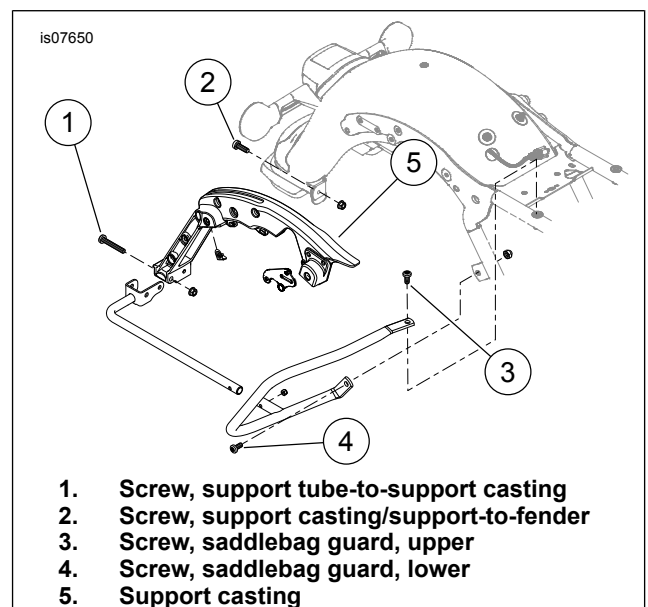

Figure 1. Saddlebag Supports
4. See Figure 1. Remove screw (2) and flange nuts.
See Figure 1. Support tube screw (1) is installed from rear to front on all models except FLHX/S.